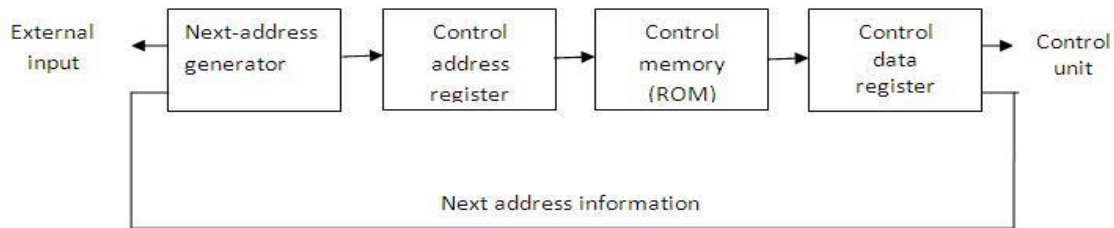

figure 4.1: Micro-programmed control organization
- The general configuration of a micro-programmed control unit is demonstrated in the block diagram of Figure 4.1.